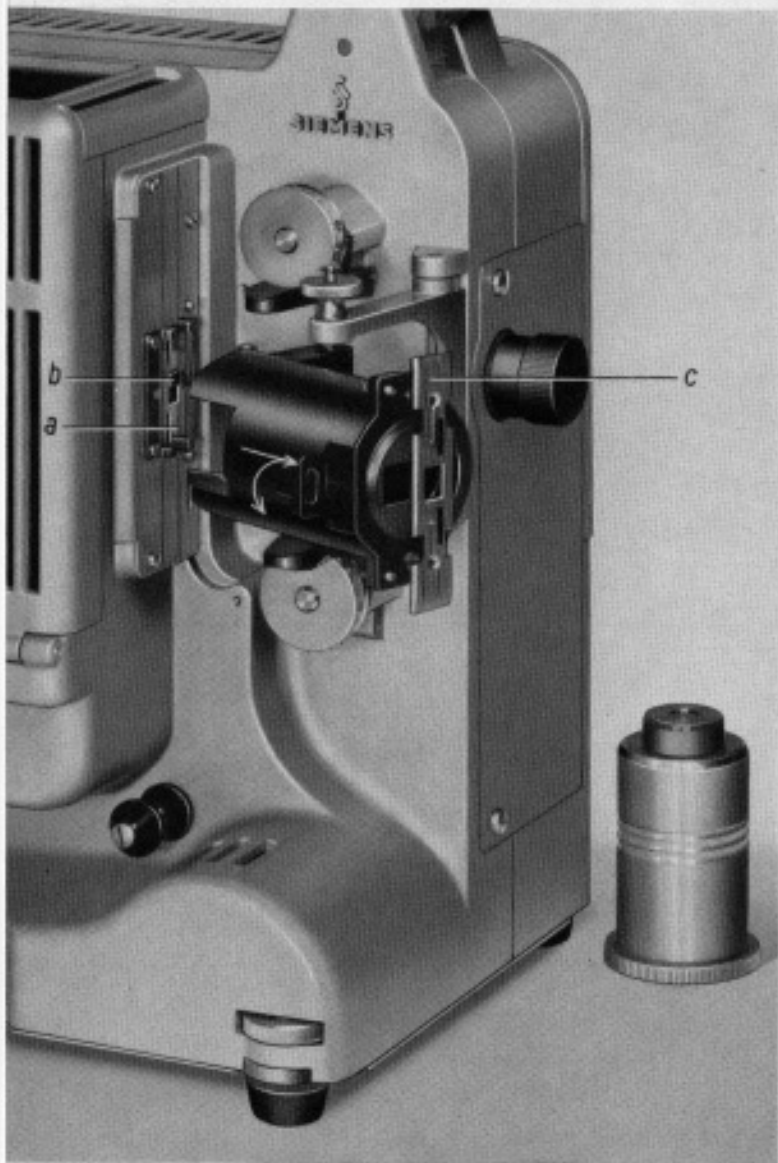

Fig. 22 Projector with lens holder pivoted outward
After running through a film, all emulsion particles should be removed from film channel a (Fig. 22), gate b (Fig. 22) and pressure plate c (Fig. 22) of the lens holder.
2. Press lens holder in direction of projection and pivot outward in direction of arrow (Fig. 22).